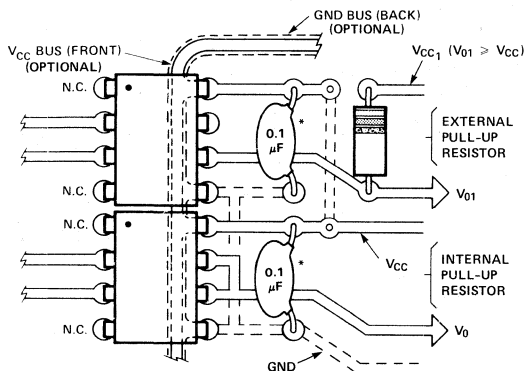

Figure 18. Recommended Printed Circuit Board Layout.
A recommended layout for use with an internal 1000 Ohms resistor or an external pull-up resistor and required  $V_{CC}$  bypass capacitor is given in Figure 18.  $V_{CC1}$  is used with an external pull-up resistor for output voltage levels ( $V_O$ ) greater than or equal to 5 V. As illustrated in Figure 18, an optional  $V_{CC}$  and GND trace can be located between the input and the output leads of the HCPL-2300 to provide additional noise immunity at the compromise of insulation capability ( $V_{I-O}$ ).
1. Bypassing the power supply line is required with a  $0.1 \mu\text{F}$  ceramic disc capacitor adjacent to each optocoupler as illustrated in Figure 18. The power supply bus for the optocoupler(s) should be separate from the bus for any active loads, otherwise a larger value of bypass capacitor (up to  $0.1 \mu\text{F}$ ) may be needed to suppress regenerative feedback via the power supply.